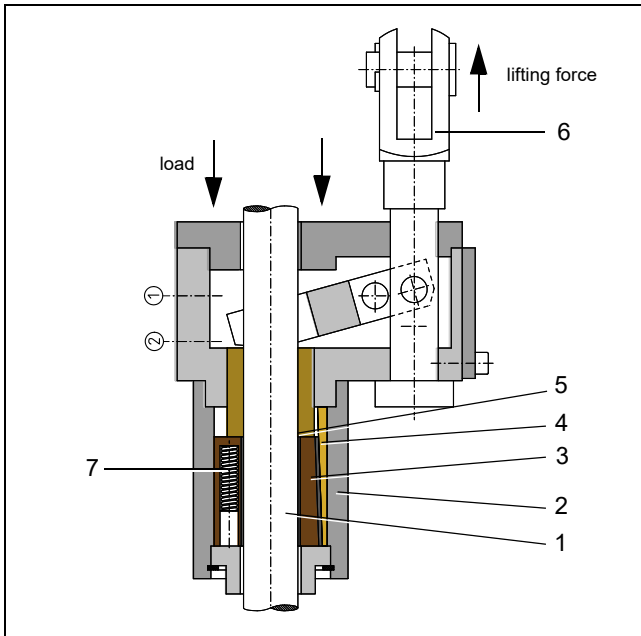

Fig. 2: Safety Catcher KRM (clamping released)
The piston shaft (1), Fig. 2 is surrounded by the housing (2), Fig. 2 in which several wedged clamping jaws (3), Fig. 2, each with one slide lining (4), Fig. 2 and one brake lining (5), Fig. 2 are assembled. The tensile force of the lifting member acting on the anchor bolt (6), Fig. 2 via a lever keeps the clamping jaws released. The springs (7), Fig. 2 are compressed in this position.